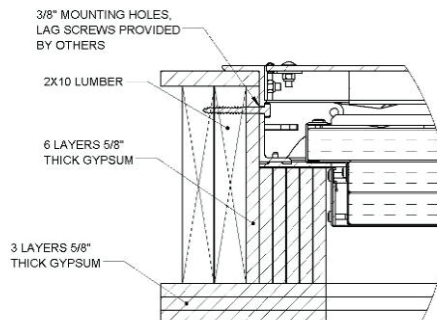

FIGURE 3
- With two or more people, set the floor door in place and secure to the mounting surface with bolts (For existing concrete openings, 3/8-inch anchor bolts are recommended (Figure 1 & 2). For existing wood openings 3/8-inch lag bolts are recommended) (Figure 3 & 4). Secure Hinge side frame first.